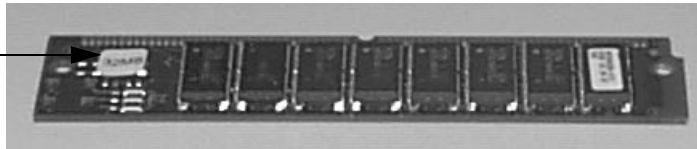

Figure 1-2 32MB Memory SIMM
To accurately identify the product as 32MB check for a label with the inscription "32MB" on the upper component side of the SIMM (Figure 1-2). Make sure the SIMM has the 32MB label.
- a The cutout on the gold connector edge is facing the front panel (Figure 1-2).